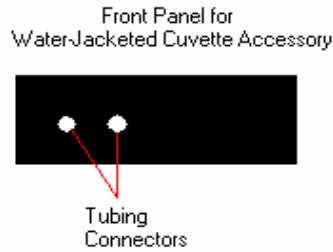

Figure-17 Front Panel for Water-Jacketed Cuvette Accessory
Step 11 Connect Water bath to the front panel tubing connectors (Figure-17).